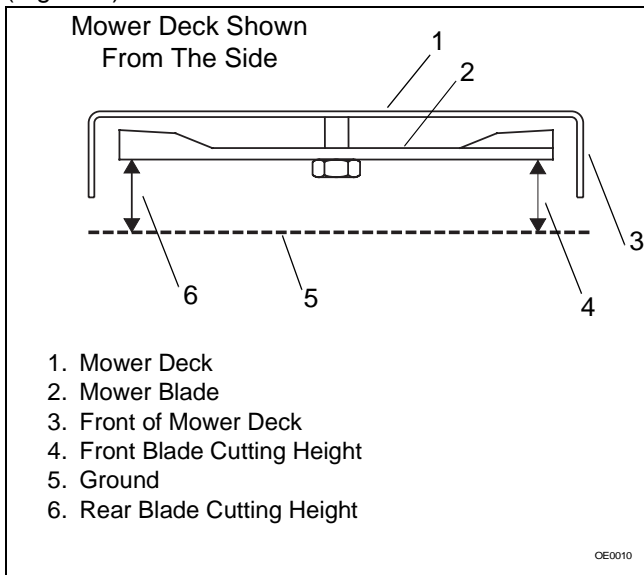

Figure 8
2. Rotate the right and left mower blades until the ends of both mower blades are facing rearward (Figure 8).
**NOTE:** The rear blade cutting height should be 2-7/8 to 3 in. (7.3 to 7.6 cm) from rear edge of mower blades to the ground on both blades (Figure 8).
**IMPORTANT:** The distance from rear edge of mower blades to the ground **MUST NOT** exceed 3 in. (7.6 cm) (Figure 8).
1. Rotate the right and left mower blades 90 degrees until the end of the mower blade that was used to level the mower deck is facing forward (Figure 8).